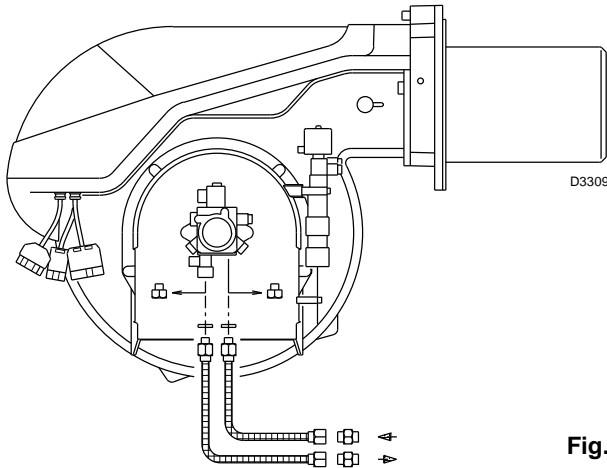

Fig. 20
6.2 Hydraulic connections (Fig. 20)